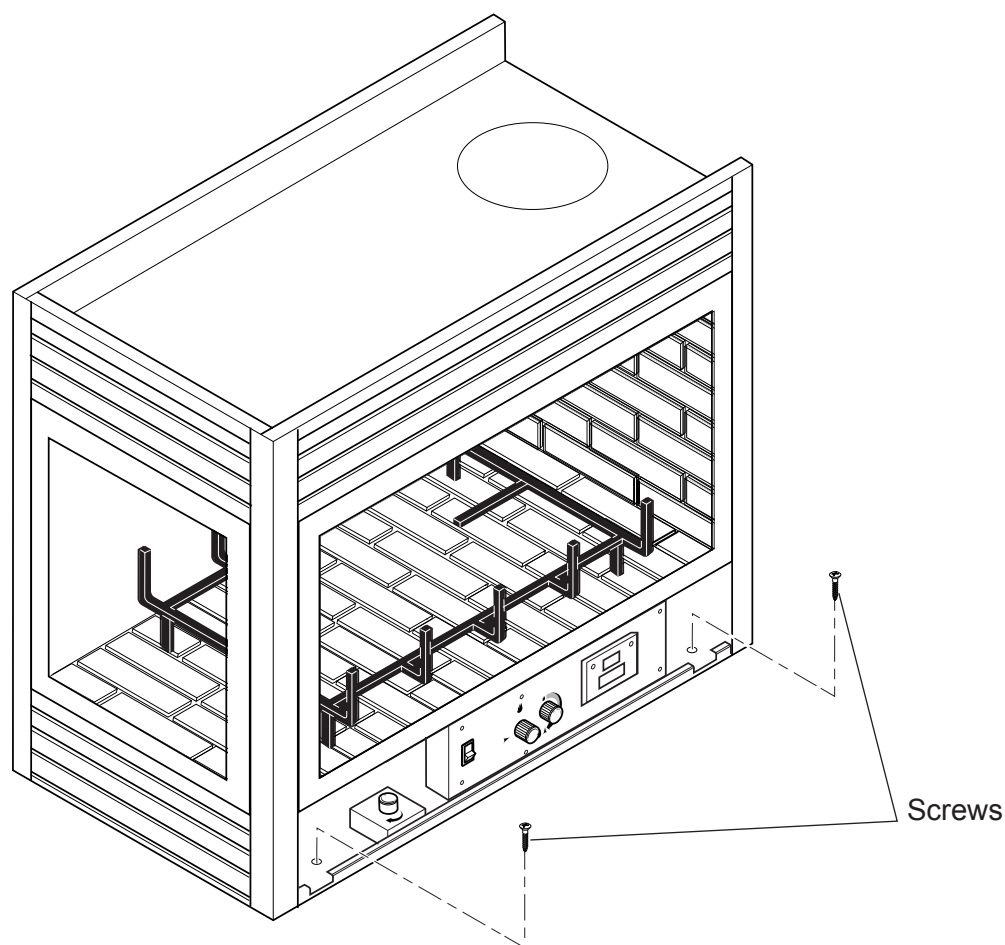

Figure 10 - Securing Fireplace to Floor and Framing Studs
The fireplace must be secured to the floor and/or to framing studs as shown in *Figure 10*. Use two (2) wood screws or masonry/ concrete screws to secure fireplace to the floor. Use four (4) screws to attach fireplace to framing. The side brackets are adjustable from 1/2" to 5/8" to accommodate different thickness of noncombustible material.